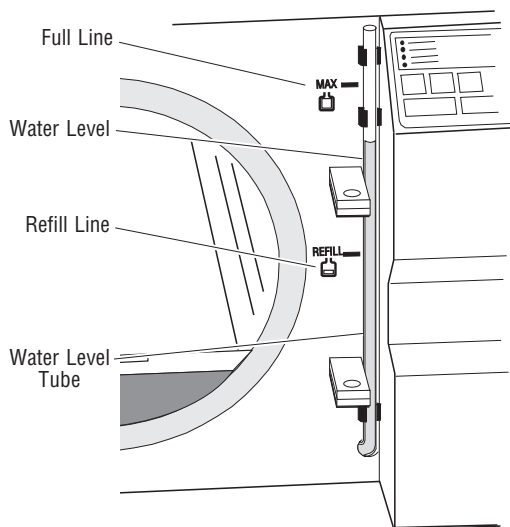

**Figure 3-14**
11. Remove the water reservoir cover (see Figure 2-1) and slowly fill reservoir with distilled or deionized water (minimum resistivity of 1 megohm/cm) until water level in the water level tube is between REFILL and MAX indicators (Figure 3-14). Reservoir capacity is approximately 1 gal (3.8 L). **DO NOT OVERFILL.** Replace the water reservoir cover.
2. Verify that the water reservoir is full (water level should be between REFILL and MAX indications on the water level tube, Figure 3-14). If needed, slowly add distilled or deionized water (minimum resistivity of 1 megohm/cm). Do not overfill. Replace the water reservoir cover.